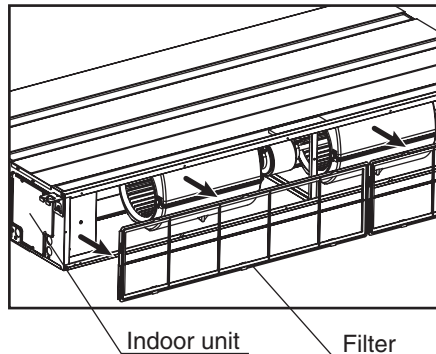

Fig.3-1
1. Remove the filter on the indoor unit. (Fig. 3-1)